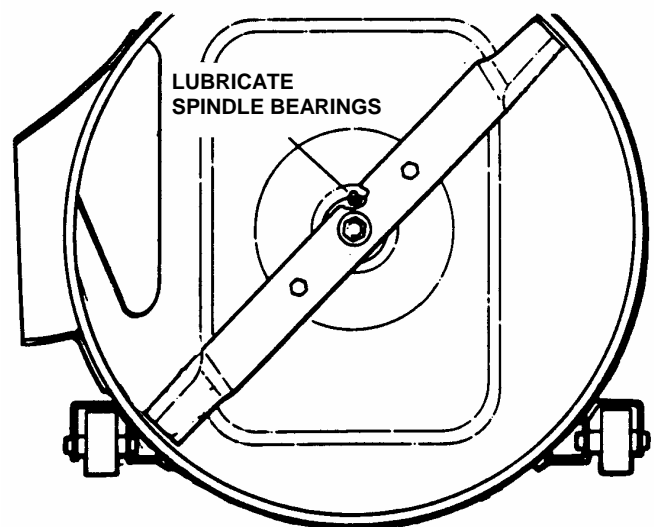

FIGURE 3.6
- Lubricate spindle bearings with three shots of general purpose grease from grease gun. See Figure 3.6.